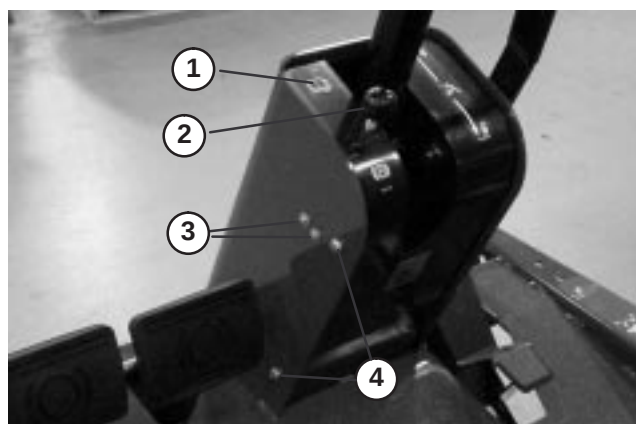

Figure 49
2. Remove knob from parking brake rod and screws from steering tower cover (Fig. 49).
4. Loosen screws and nuts securing parking brake switch to left side of steering tower (Fig. 49).